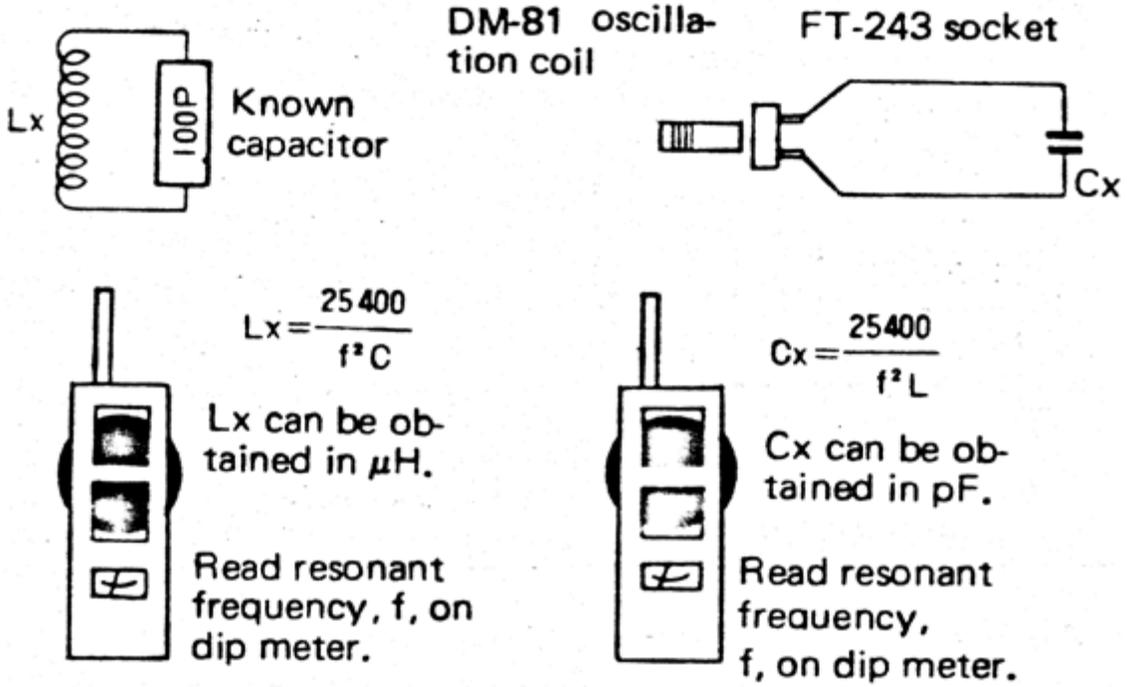

Figure 10 – Inductance and Capacitance Measurements.
The value of an unknown inductor can be obtained in combination with a known capacitor by their resonant frequency, as illustrated in Figure 10. Likewise the value of an unknown capacitor can be calculated. The inductance (L), capacitance (C), and resonant frequency (f) are related as: